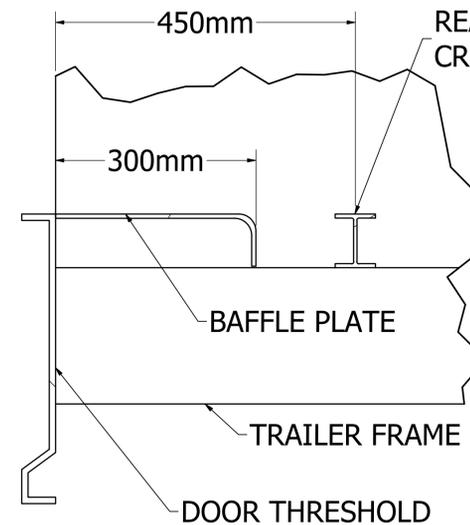

FIGURE 4: BAFFLE PLATE FOR STAINLESS STEEL WEARSTRIP
1. DETERMINE THE DIMENSIONS OF THE BAFFLE PLATE (FIGURES 4 & 5). THE THICKNESS DEPENDS ON THE TYPE OF LOAD. FOR LIGHT MATERIALS (E.G. SAWDUST), USE 5mm PLATE. 6mm PLATE IS RECOMMENDED FOR HEAVY, ABRASIVE MATERIALS (E.G. SOLID WASTE). THE PLATE BENDS DOWN 300MM INSIDE THE CLOSED DOOR, LEAVING AN OPENING SO THAT MATERIAL WILL NOT BUILD UP UNDERNEATH THE SLATS. BAFFLE PLATE HEIGHT WILL VARY DEPENDING ON WHETHER THE 6mm PLASTIC WEAR STRIP OR THE 3mm STAINLESS STEEL STRIP IS TO BE INSTALLED ON TOP OF THE BAFFLE PLATE. IF USING THE 6mm PLASTIC STRIP, THE TOP OF THE BAFFLE PLATE MUST BE 3mm BELOW THE TOP OF THE CROSS-MEMBERS. IF USING THE STAINLESS STEEL WEARSTRIP, THE BAFFLE PLATE MUST BE LEVEL WITH THE TOPS OF THE CROSS-MEMBERS.